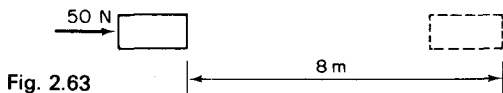

Fig. 2.63
**Example.** Find the amount of work done when a force of 50 newtons moves through a distance of 8 metres as shown in Fig. 2.63.